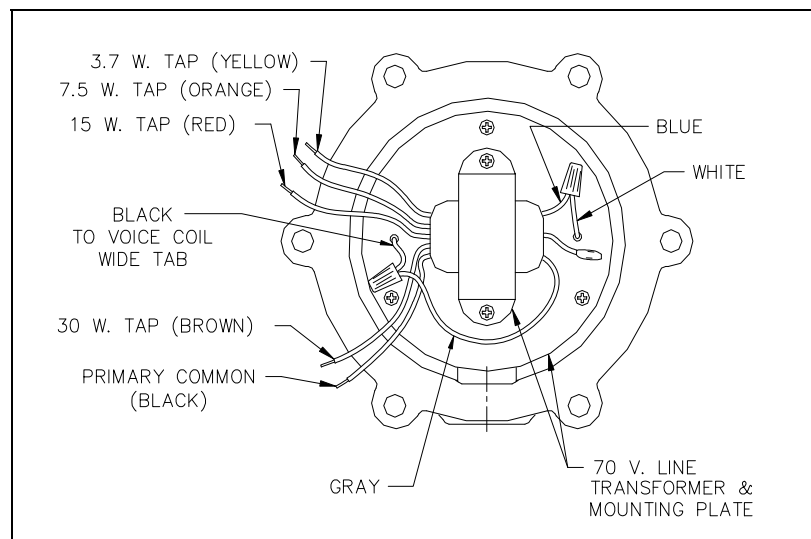

Figure 2. 13315-003 Rear View with Cover Removed
7. Reconnect the gray wire from the transformer to the black voice coil lead and the blue transformer common wire to the white voice coil lead using suitable splice connectors. See Figure 2 below.